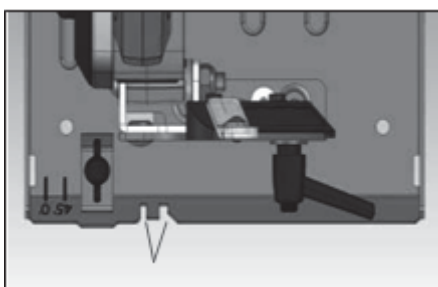

Fig.21.
Sighting notch (A) near the front of the base plate provide guidance. When performing free-hand cuts following a cutting line as shown in Fig.21 When performing cuts, the cutting line for the saw blade can be observed via a triangle shaped sighted notch at the front of base plate. Align the cutting line on the workpiece with the triangle shaped Sighting Notch at the front of the Base Plate.